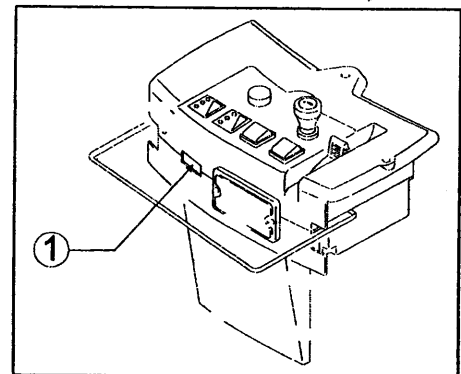

Fig. 4
Hour counter: the hour counter accessory is fixed to the control panel (fig. 4, ref. 1). It displays the number of brush operating hours.